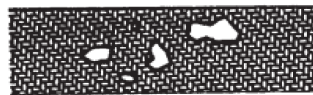

Figure 6
- Acid or alkali burns on the tie down. Figure 6.